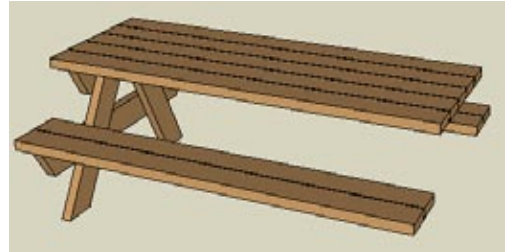

Figure 10-65
8. The only object left to fix is the table support on the side you just lengthened. You could move it into place, but it's not clear where it should go because it is set back from the edges of the slats. The easiest way to fix this support is to erase it and start over, so remove it (Figure 10-65).